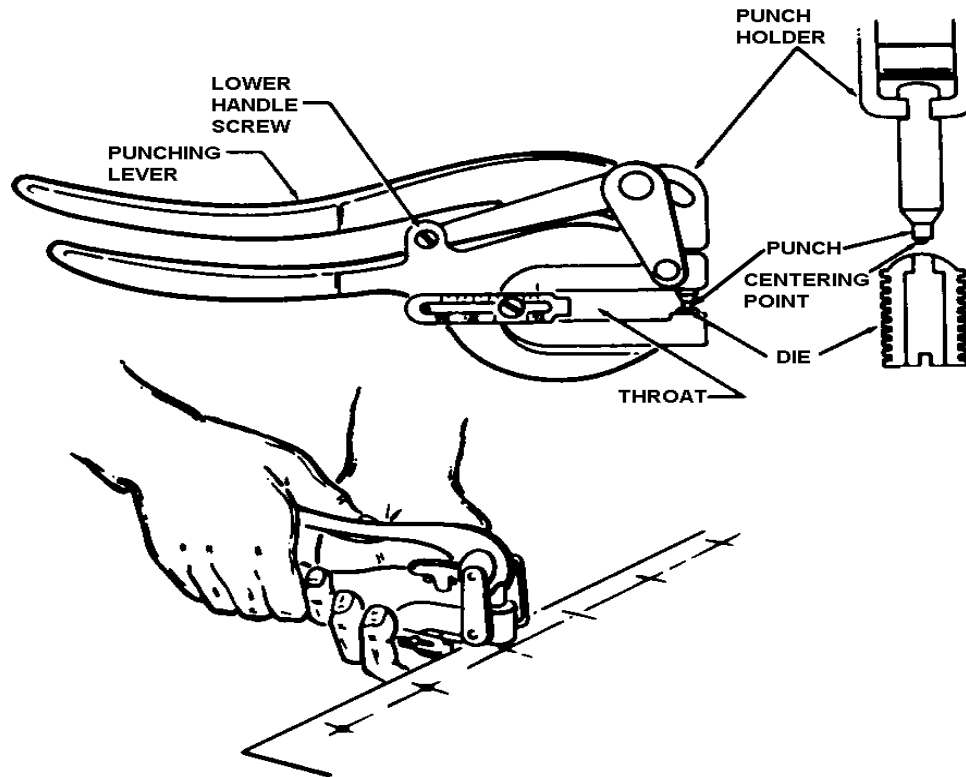

Figure 9, Whitney Punch.
- b. The Whitney punch and the iron hand-lever punch have interchangeable dies for piercing holes in metal. The Whitney punch, as shown in Figure 9 is used to punch light-gauge metal and is available with dies ranging in size from 1/16 to 3/32 inch. When you're making holes in exact locations, set the centering point in the center punch mark. The iron hand-lever punch is like the Whitney punch, except it has longer handles and is available with dies ranging in size from 3/32 to 1/2 inch. Both punches have short throats and are used when the hole locations are near the edge of the material. Both punches pierce holes much faster in light-gauge metal than twist drills. When you change punches and dies, be sure to match the sizes. A punch that is too large for a die damages the cutting edges. A punch that is too small pierces the hole but dimples the materials.